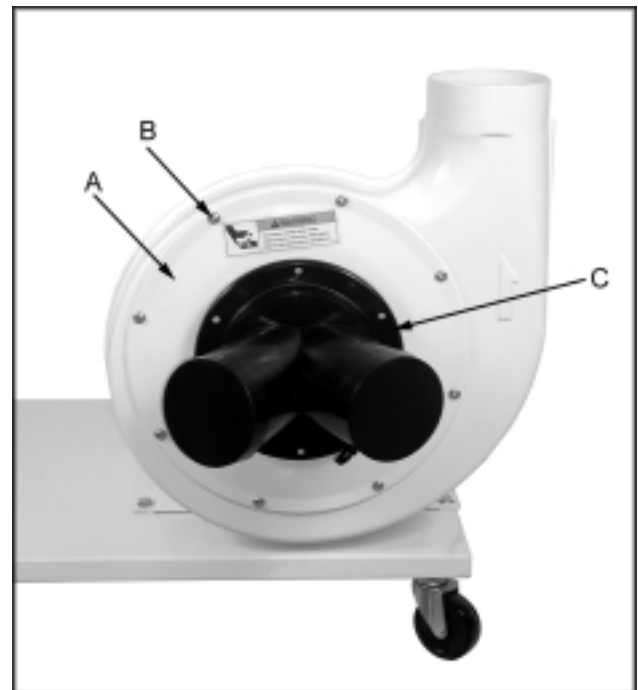

Fig. 3
3. Attach inlet guard (A, Fig. 3) to fan housing using *eight* M5 x 12 pan head screws (B, Fig. 3). Press the inlet port onto the inlet guard until it snaps into place.